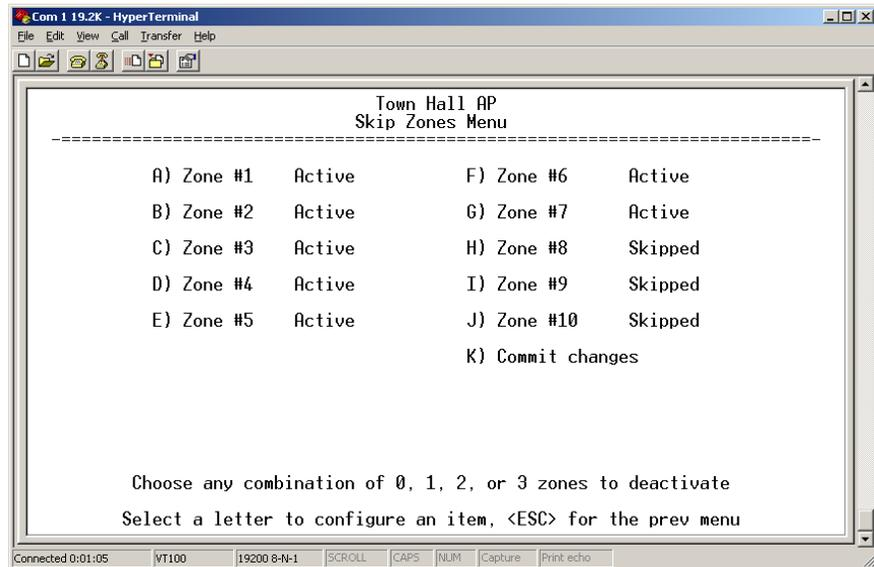

Figure 2-27. Skip Zone Options Submenu—GE MDS iNET Only
- **Skip Zones** (*Does not apply to iNET-II. Editable at AP Only.*)—This selection brings up a submenu (Figure 2-27) that displays the current utilization of zones. Each zone consists of eight RF channels. In some instances there may be a part of the spectrum used by another system, that results in “continuous” or “persistent” interference to your system. To alleviate this form of interference, the transceiver may be programmed to “block out” affected portions of the spectrum using the Skip Zones Menu.
Figure 2-27 displays the utilization of 10 zones, each having eight RF operating frequencies. Zones can be toggled between **Active** and **Skipped** at Access Point units by first keying in the letter of the zone to be changed, and then pressing the spacebar to toggle between the two options for each zone. Select the **Commit Changes** menu item to implement changes. These changes will be forwarded to all units in the network through the Access Point’s beacon signal.